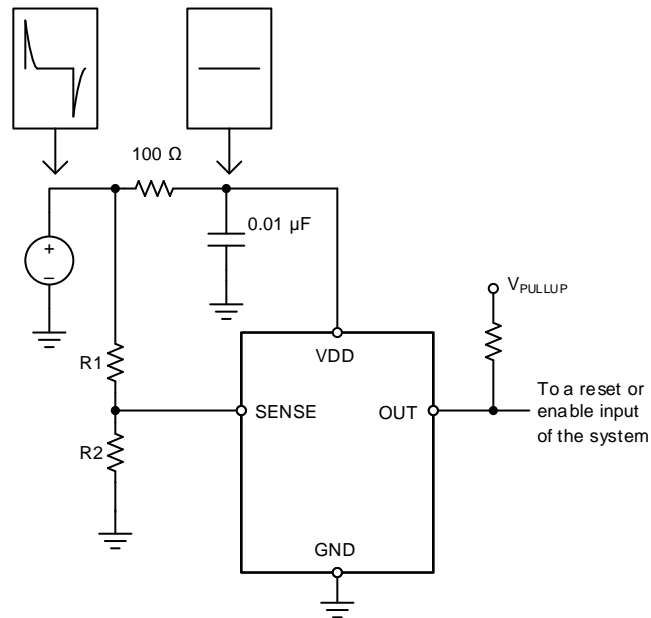

Figure 17. Using an RC Filter to Remove High-Frequency Disturbances on VDD
The TPS3711 has a 40-V absolute maximum rating on the VDD pin, with a recommended maximum operating condition of 36 V. If the voltage supply that provides power to VDD is susceptible to any large voltage transient that may exceed 40 V, or if the supply exhibits high voltage slew rates greater than 1 V/ μ s, then place an RC filter between the supply and VDD to filter any high-frequency transient surges on the VDD pin. In these cases, a 100- Ω resistor and 0.01- μ F capacitor are required, as shown in Figure 17.
- Avoid using long traces for the VDD supply node. The VDD capacitor (C_{VDD}), along with parasitic inductance from the supply to the capacitor, might form an LC tank and create ringing with peak voltages above the maximum VDD voltage. If long traces are unavoidable, see Figure 17 for an example of filtering VDD.